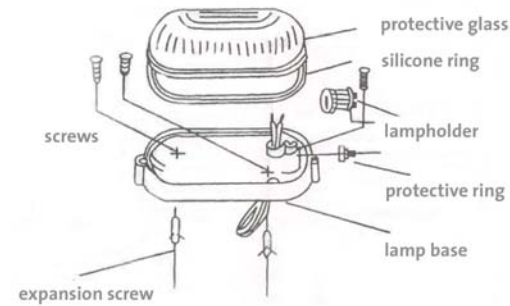

Fig. 1
2. Let the wires of the supply circuit pass through the protective ring in the lamp base (fig. 1)